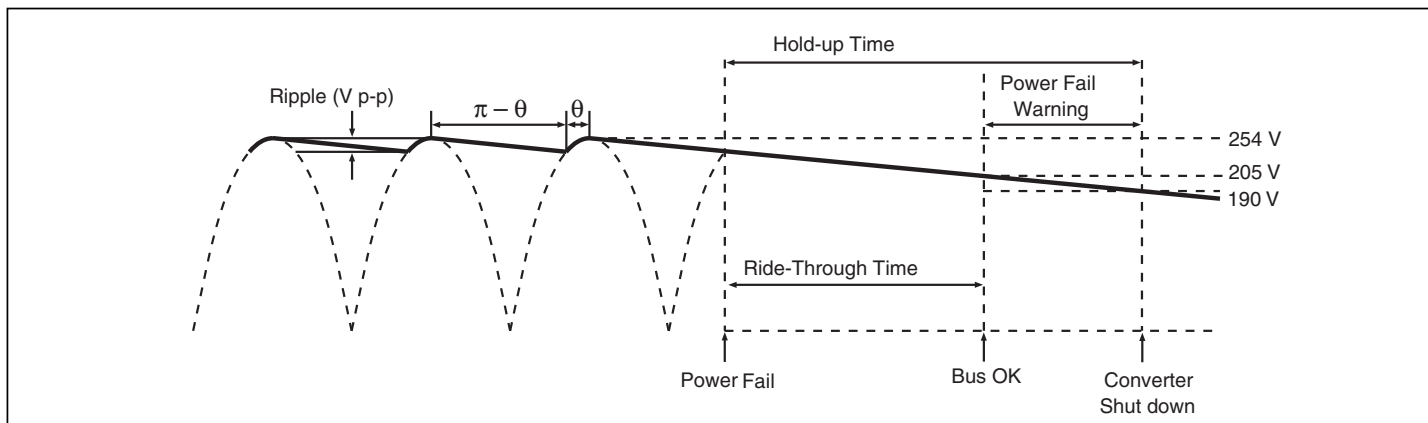

Figure 13 — Hold-up time
**Hold-up Capacitors.** Hold-up capacitor values should be determined according to output bus voltage ripple, power fail hold-up time, and ride-through time (see Fig. 13). Many applications require the power supply to maintain output regulation during a momentary power failure of specified duration, i.e., the converters must hold-up or ride-through such an event while maintaining undisturbed output voltage regulation. Similarly, many of these same systems require notification of an impending power failure in order to allow time to perform an orderly shut down.
The power fail warning time ( $\Delta t$ ) is defined as the interval between B OK and converter shut down (EN) as illustrated in Fig. 13. The Bus-OK and Enable thresholds are 205 V and 190 V, respectively. A simplified relationship between power fail warning time, operating power, and bus capacitance is obtained by inserting these constants:
For example, a converter whose output is 15 V and nominal input is 300 V will provide approximately 56 dB ripple rejection, i.e., 10 V p-p of input ripple will produce 15 mV p-p of output ripple (see Fig. 17). Equation 3 is again used to determine the required capacitance. In this case,  $V_1$  and  $V_2$  are the instantaneous values of bus voltage at the peaks and valleys (see Fig. 13) of the ripple, respectively. The capacitors must hold-up the bus voltage for the time interval ( $\Delta t$ ) between peaks of the rectified line as given by: